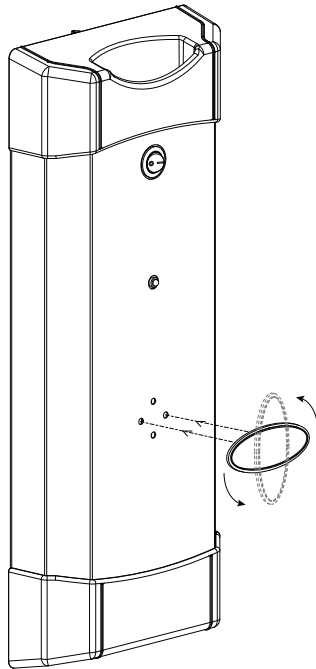

Fig. 17 – Attach Logo
3. Insert the brand logo into the front of the door panel. To insure that the logo is installed in the proper orientation, first attach the door to the purifier and then snap the logo into place with the text in upright position (Fig. 17).